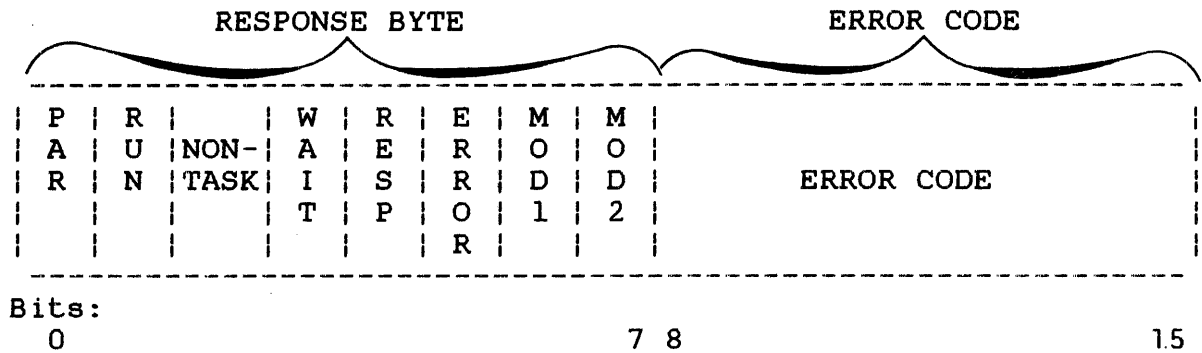

Figure 7-4 APU Hardware Response Bytes
- SV13.APS receives the APU response status returned after execution of this macro call. The APU status consists of a response byte followed by an error code byte. The response and error code bytes have the format shown in Figure 7-4.